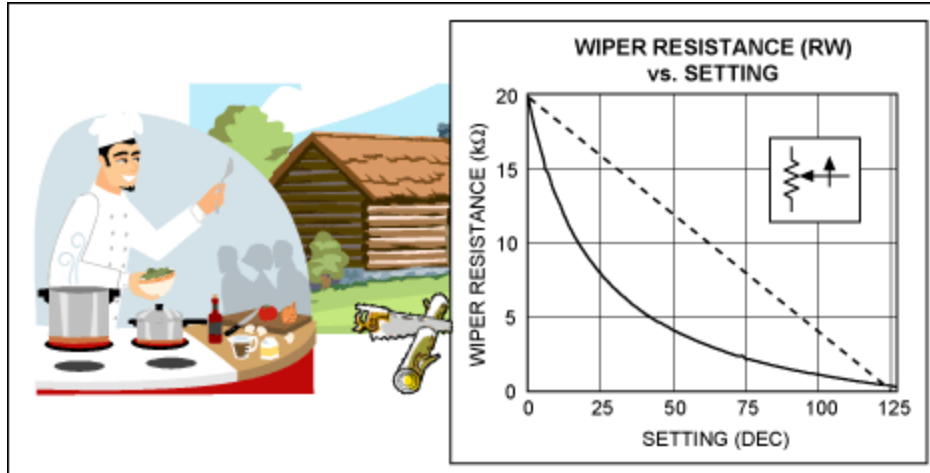

Figure 1. Pots and pans, and logs vs. potentiometers; the plots of log and linear responses are resistance vs. pot position.
**Figure 1** compares pots and pans with logs and log cabins. It also shows the linear and logarithmic plots of a digital pot (potentiometer).
The most popular electronic potentiometers (pots) are linear (Figure 1, dotted line). Due to their large sales volume, they tend to be among the less expensive pots. Nevertheless, other applications like audio require a logarithmic response (Figure 1, solid line) to match the human ear's response. The dichotomy of these responses inevitably leads to a designer's dilemma. How can we convert a linear response to logarithmic? Maxim application note 3996, "Logging the Linear Digital Potentiometer," provides the math to do the conversion.